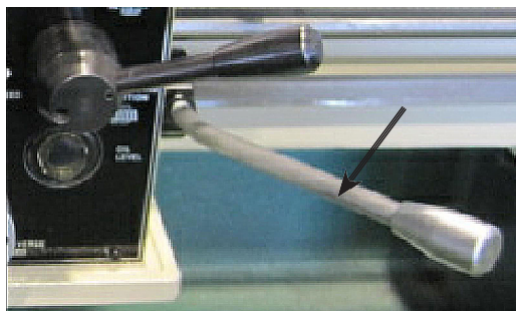

Figure 20. Spindle ON / OFF lever.
- Move the spindle ON / OFF lever to the OFF position as shown in Figure 20.